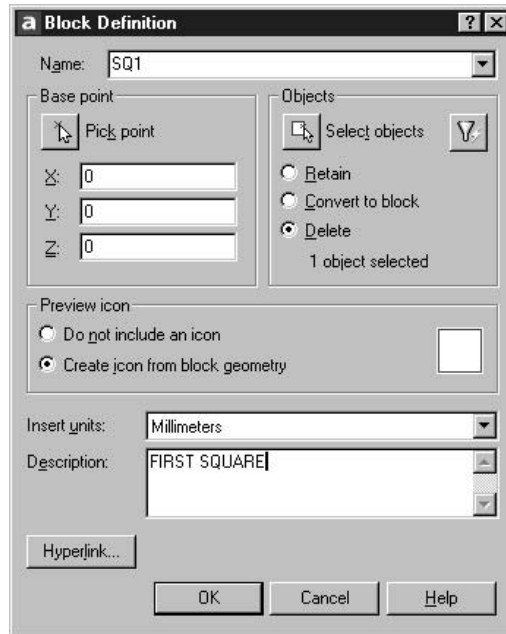

Figure 23.2 Block Definition dialog box for SQ1.
7. ensure insert units: millimeters (dialogue box as Fig. 23.2)